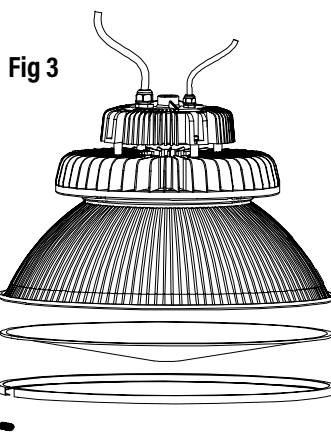

Fig 3
1. Match lens to the reflector, place the metal ring around the lens and reflector. (Fig. 3)